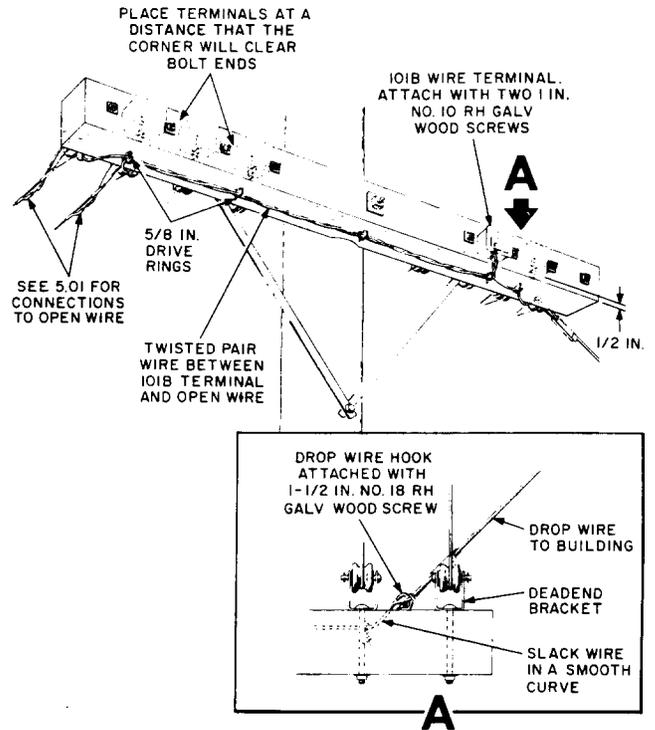

Fig. 3—Wiring Arrangement on DE Crossarms not Having Back Braces
4.11 Crossarms equipped with deadend brackets (Fig. 3).
4.13 At double crossarms equipped with deadend brackets, follow the general wiring method as shown in Fig. 3, locating the 101B terminal on the outer side of the crossarm not equipped with deadend brackets. Locate the wire run on the underside of the same crossarm.